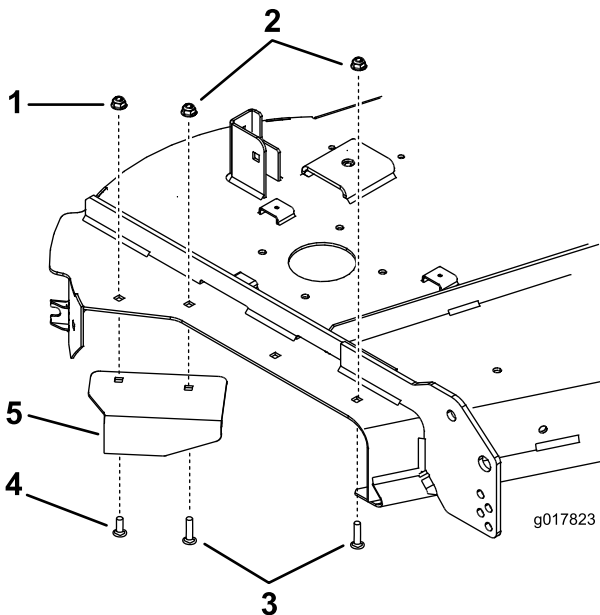

Figure 31
5. Install a carriage bolt and flange nut into the front hole shown in Figure 31.